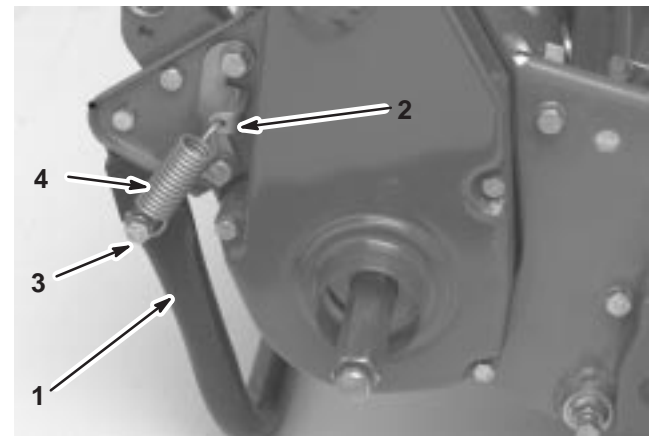

Figure 3
1. Hook spring into hole in spring bracket and onto spring retainer while aligning kick stand with mounting holes in rear frame (Fig. 3).
2. Mount kick stand to each side of frame with a capscrew, lockwasher, spacer flat washer and lock nut (Fig. 3). Spacer to be positioned in kick stand mounting hole.